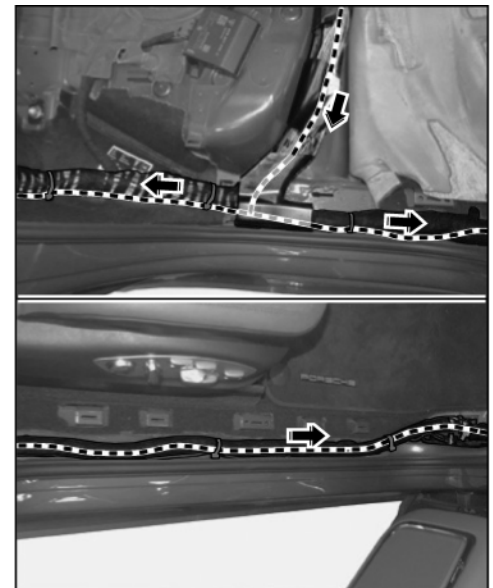

Figure 11
2.3.5 Route electric wire harness (YE/GY line) along the main wire harness in the passenger compartment to the right A-pillar (⇒ *Figure 11*).